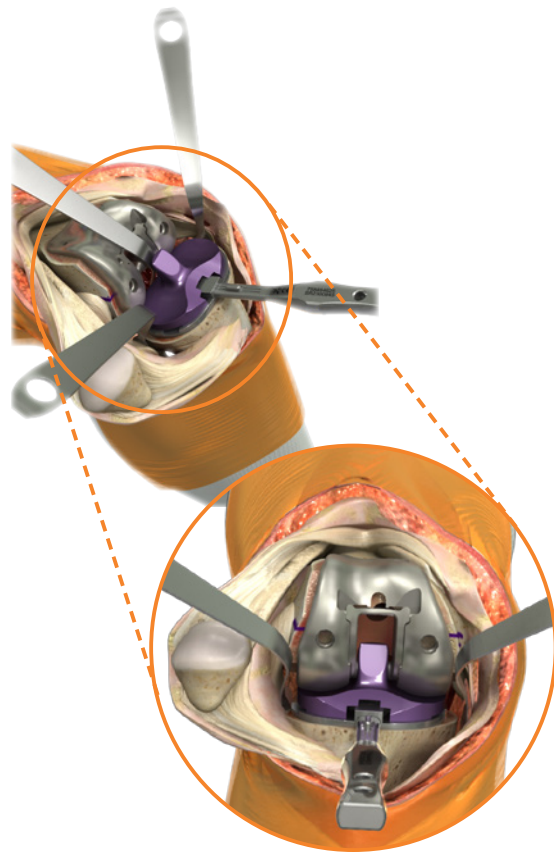

Figure 22
- Place the appropriate size and desired thickness Articular Insert Trial onto the Tibial Trial. For an Insert thickness greater than 9mm select the appropriate shim. Attach the Quick Connect Handle to the Tibial Trial and insert the assembly into the knee (Figure 22).